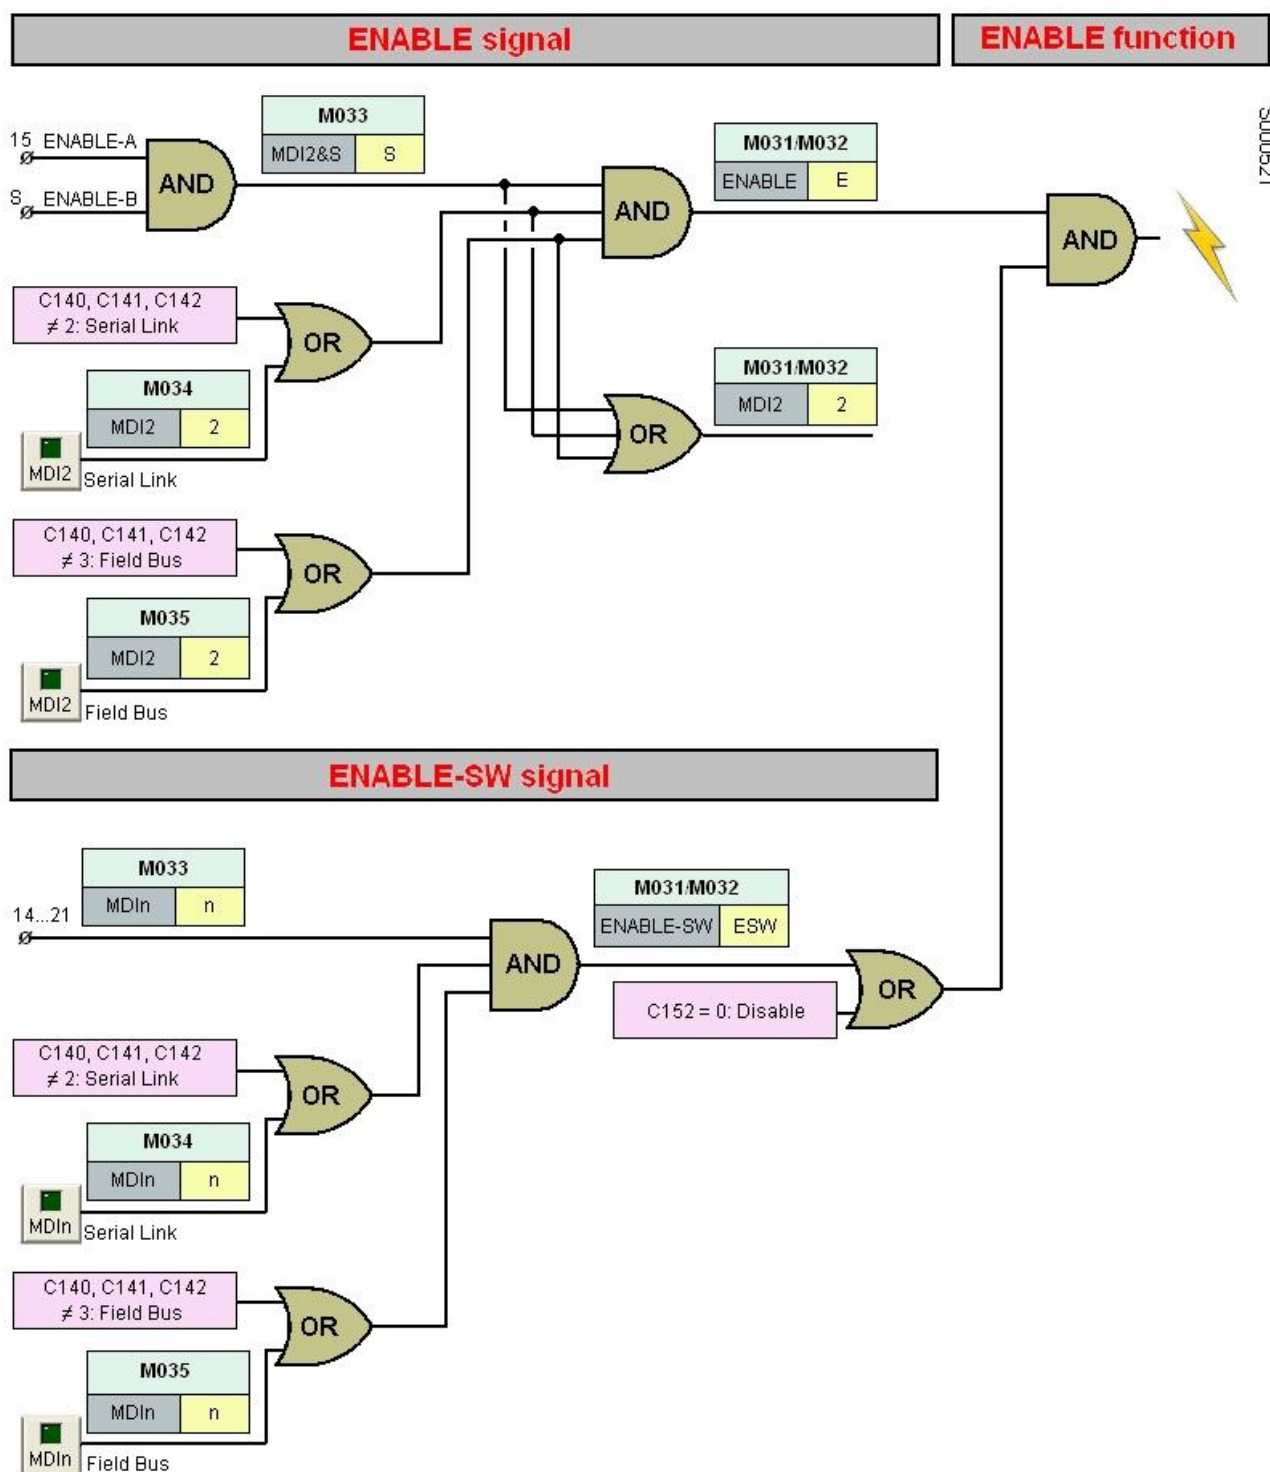

Figure 5: The ENABLE Function
Function	<p>Status of the control terminal board used by the drive. This is the terminal board resulting from the combination of the preset command sources (local terminal board, serial link and fieldbus), where:</p> <ul style="list-style-type: none"> - Inputs MDI1 to MDI8 are the result of the OR between the different control sources. - The ENABLE (E) status is the result of the AND of inputs MDI2&S of the physical terminals and of MDI2 inputs of all the other programmed control sources. - The ENABLE SW (ESW) is the result of the AND of the inputs programmed as ENABLE SW (C152) of all the programmed command sources. <p>See also the Control Method Menu, section 2.6.6. Refer to Figure 5 for the ENABLE and ENABLE SW status. For further information, contact Enertronica Santerno.</p>